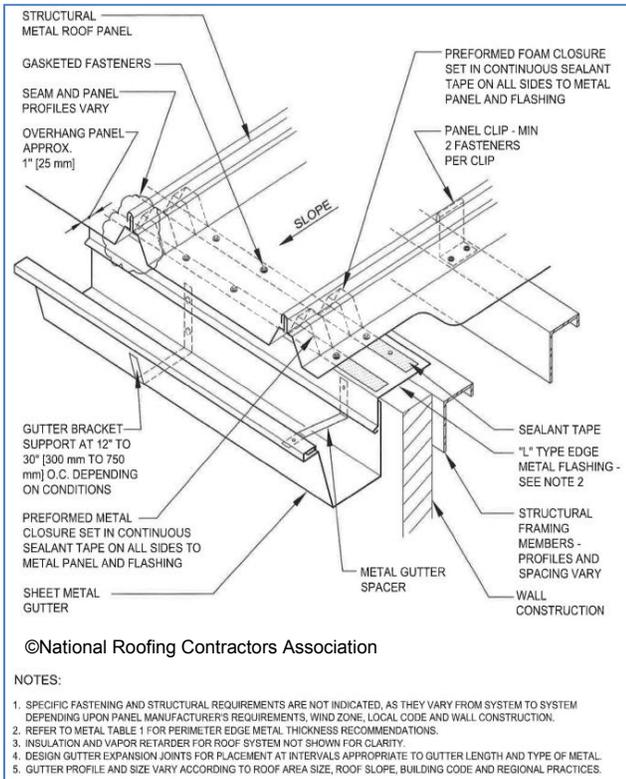

Figure 10-61
- Figure 10-61, "L"-Type Downslope with Gutter and Brackets